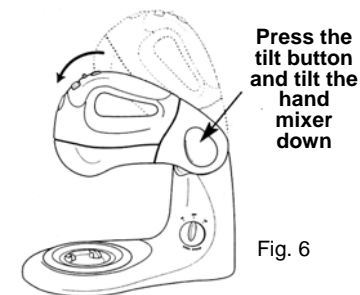

Fig. 6
- To lower the hand mixer, press and hold the tilt button with one hand while holding the hand mixer with the other hand and slowly lower the hand mixer down. (Fig. 6)